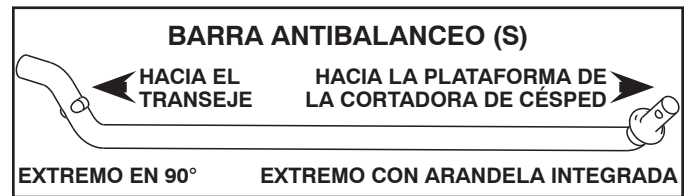

Fig. 26
## 5. SI LA TIENE, INSTALE LA BARRA ANTIBALANCEO (S) (Vea Fig. 26 - 28)